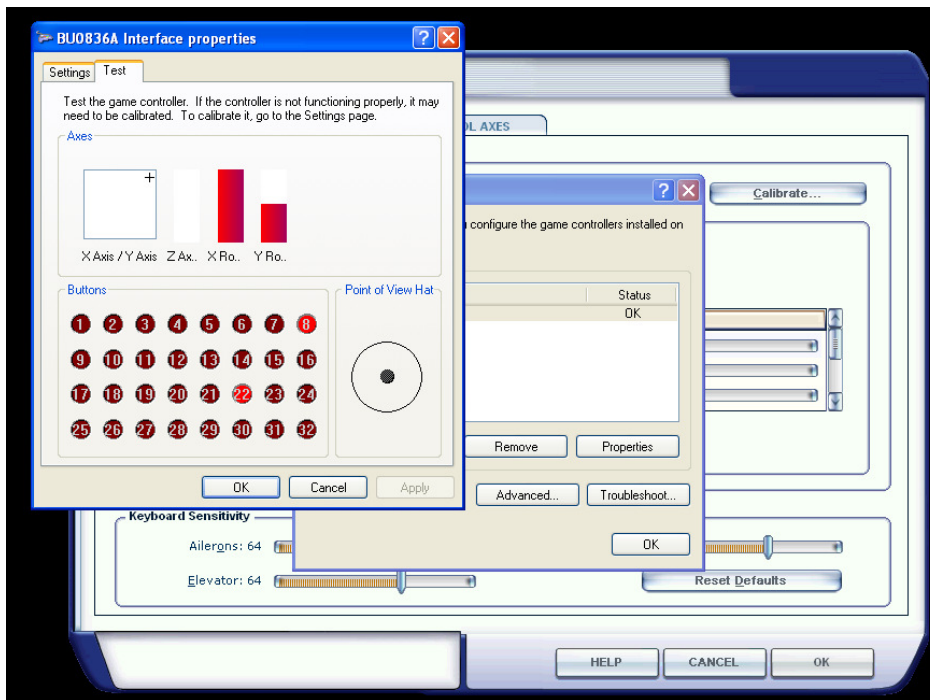
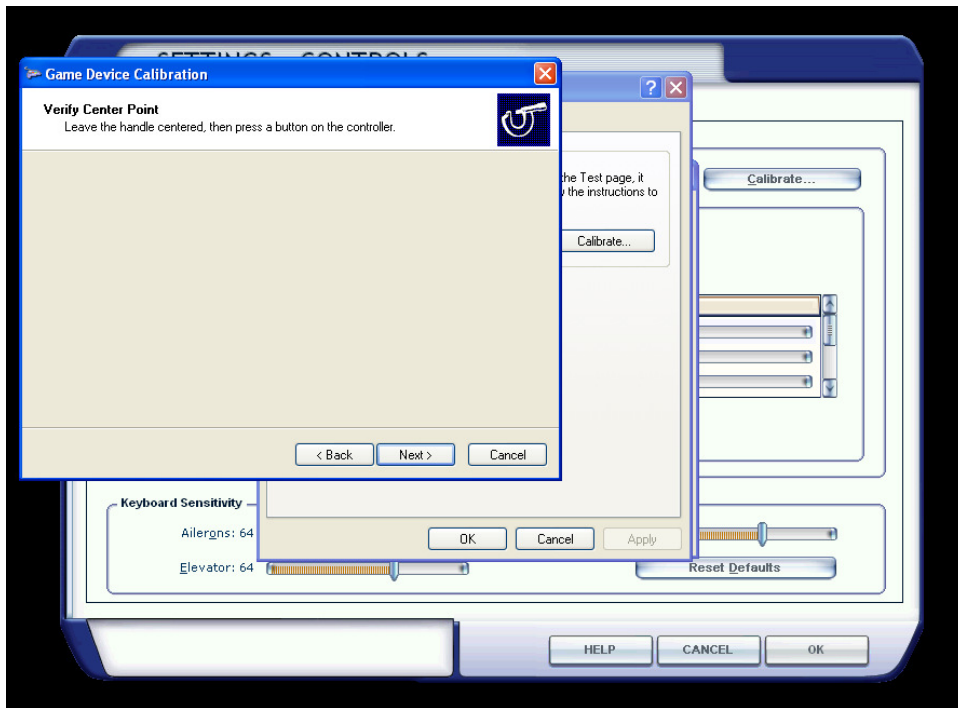

Figure 1.0 The Calibration Utility
Figure 1.1 Verify Center Point
4. Before you begin calibration, make sure you center ALL of the flight controls including, the throttles, the pitch control, flaps, and spoilers. Your throttle WILL NOT work properly if you do not center them before calibration. Figure 1.0 and figure 1.1 below shows the flight simulator x calibration utility.